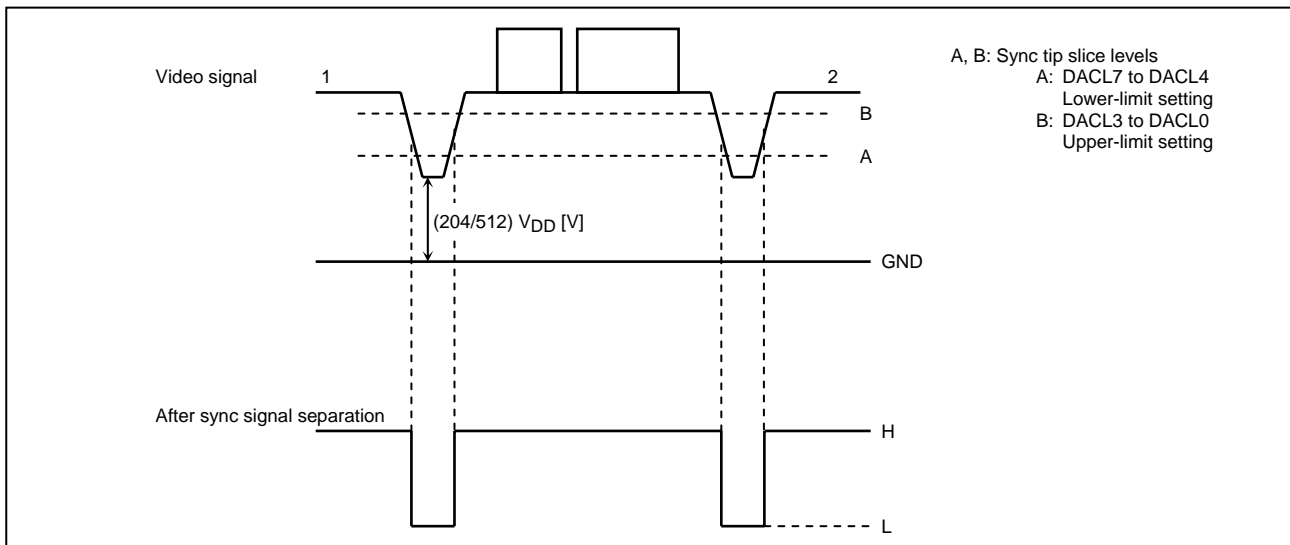

Figure 2.17.9 Sync Signal Slice
- a-1 Sync tip clamp (Pin 40) The sync tip is clamped at $(204/512) V_{DD}$ [V] as shown in Figure 2.17.9.
The sync signal is separated as shown in Figure 2.17.9.